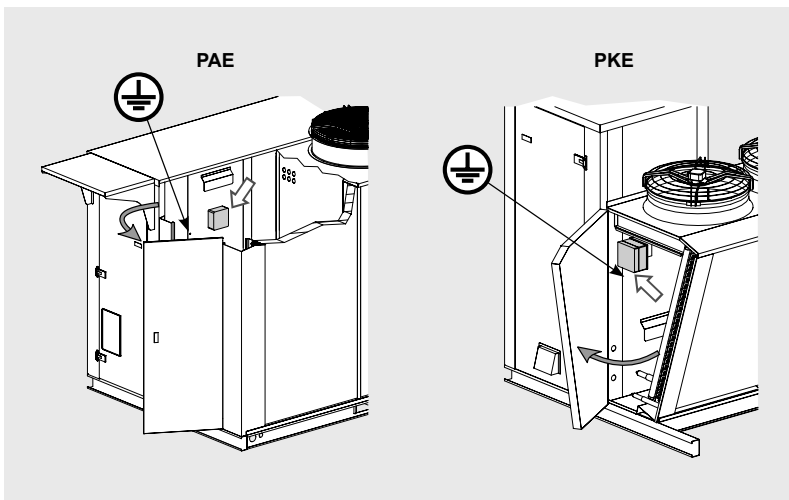

Figure 1
- 1.15 To minimise the risk of indirect contact, the electrical system can be earthed using the relevant pin (see "Figure 1").